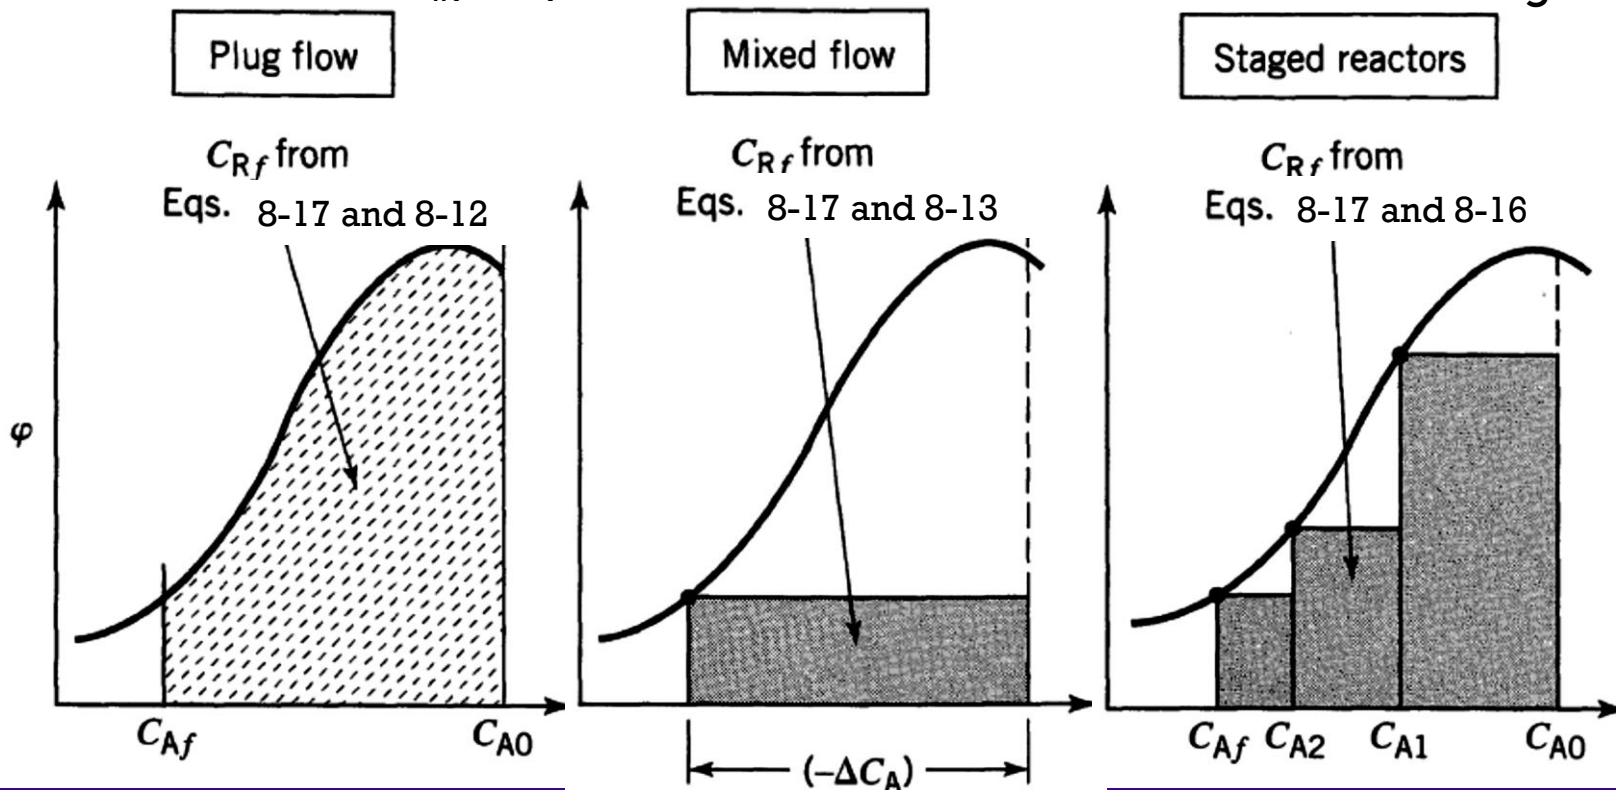

Figure 8.3
- and Fig. 8-3 shows how C_R is found for different types of reactors.